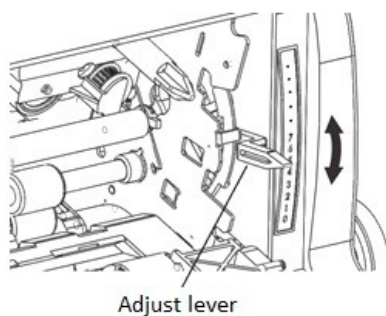

Fig. 2-13
- 3) Open the cover before feeding, and adjust the lever according to the thickness of the paper as Fig. 2-13. Details please refer to chapter 2-4.